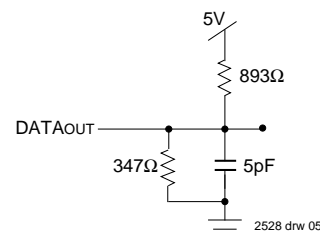

Figure 2. Output Test Load (for t_{HZ}, t_{WZ}, and t_{OW}) Including scope and jig.
1. Transition is measured $\pm 200\text{mV}$ from Low or High-impedance voltage with Output Test Load (Figure 2).
4. Transition is measured $\pm 200\text{mV}$ from the Low or High-impedance voltage with the Output Test Load (Figure 2).